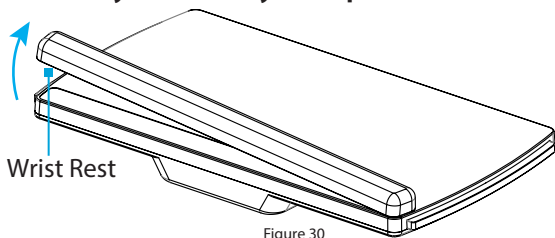

Figure 30
1. Carefully peel the **Plastic Wrist Rest** off of the **Keyboard Tray**. (Figure 30)